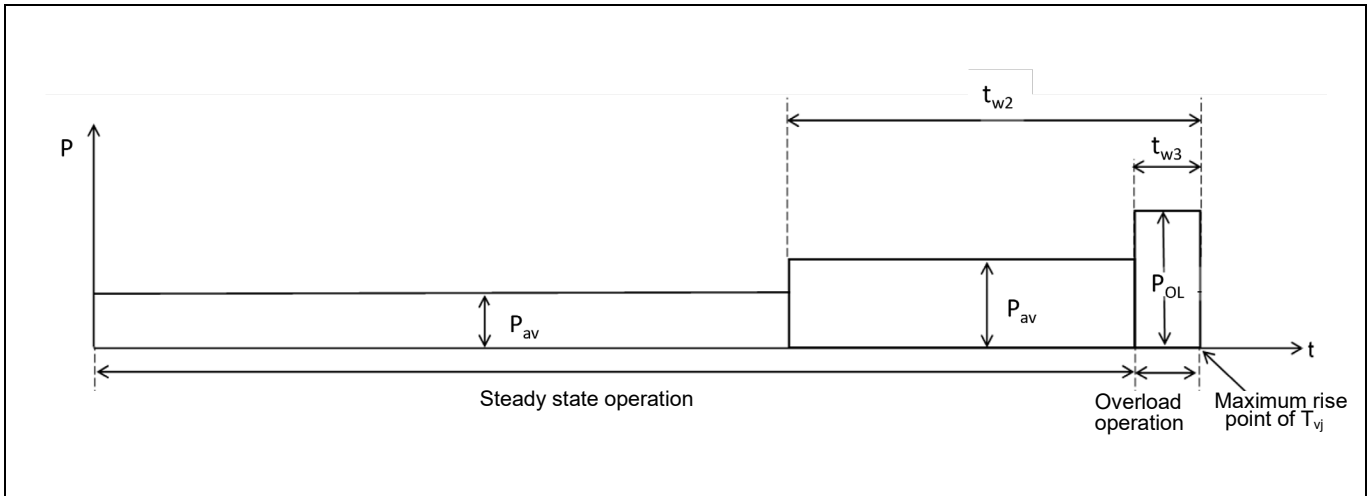

Figure 9-11. Concept of the junction temperature 3
(2) Overload from steady-state operation
In this case, ripple due to P_{OL} must also be taken into consideration. As in the case of (1), perform a square wave approximation as shown in Figure 9-11.